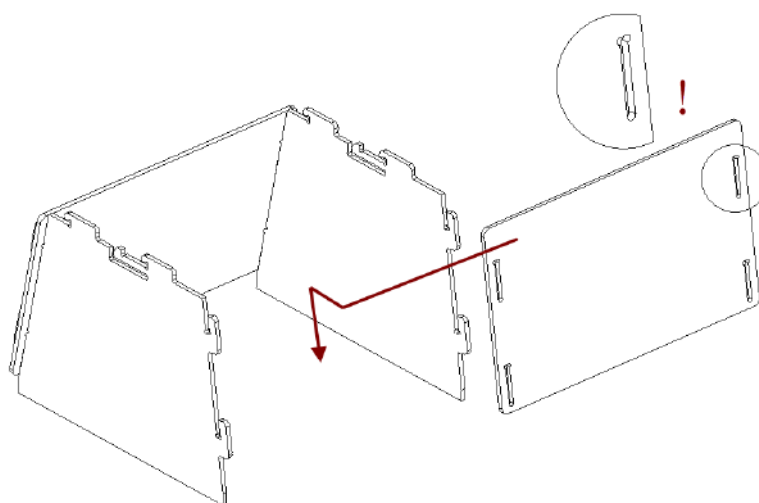

Figure 170: Assembling the back wall.
2. Install the back wall in the same way (see Figure 170).